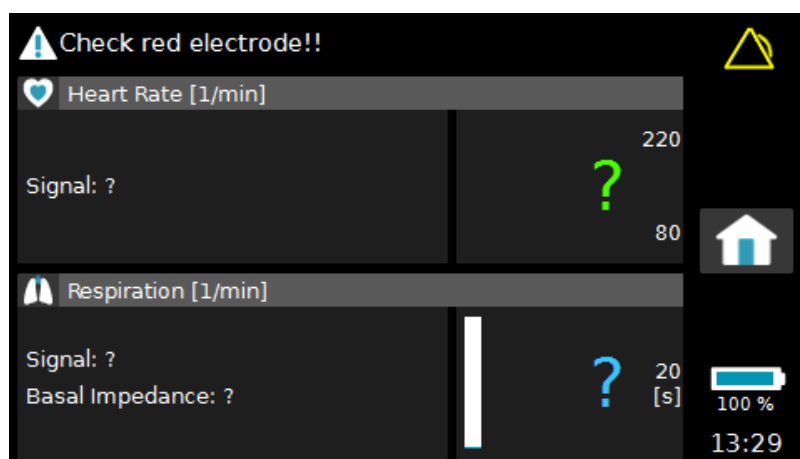

Fig. 26 Information on the Monitor Screen during a Technical Alarm
- the monitor screen outputs the following visual information, as shown in Fig. 26:
If vital signs cannot be measured due to a technical alarm, then the values for that parameter are replaced by a question mark symbol, as shown in Fig. 26 where an electrode is off the patient.